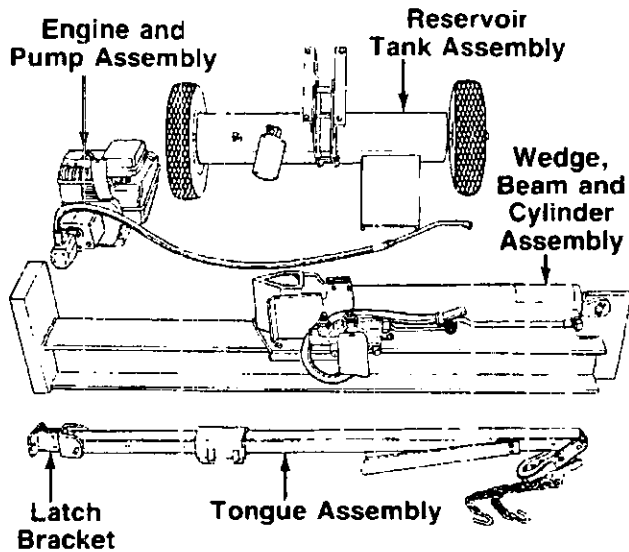

FIGURE 1.
## Parts in Cartons (See figure 1)
2. Remove the latch bracket which has been assembled to the other end of the tongue for shipping purposes only by removing another quick release pin. Refer to figure 1. This bracket will be reassembled to the beam on page 6. Replace the quick release pin in the latch bracket.